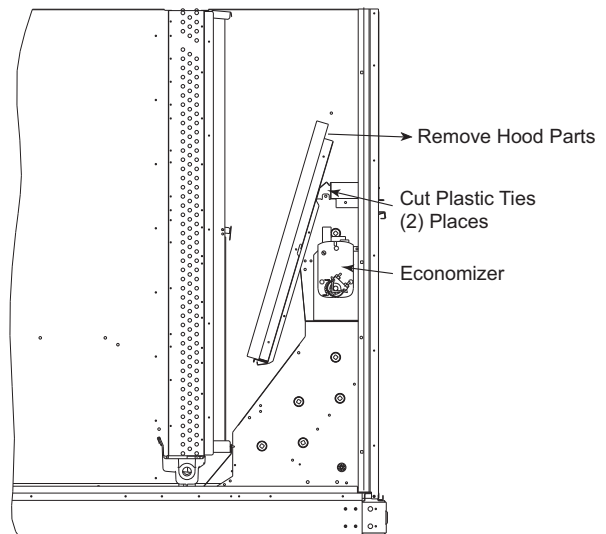

Fig. 19 — Economizer Hood Package Location
3. Locate and cut the (2) plastic tie-wraps, being careful to not damage any wiring. (See Fig. 19.)
3. Locate the (2) screws holding the metal tray to the basepan and remove. In order to remove the screws, it may be necessary to remove the panel underneath the two-position damper. Remove the two screws. Locate and cut the (2) plastic tie-wraps securing the assembly to the damper. (See Fig. 19.) Be careful to not damage any wiring or cut tie-wraps securing any wiring.